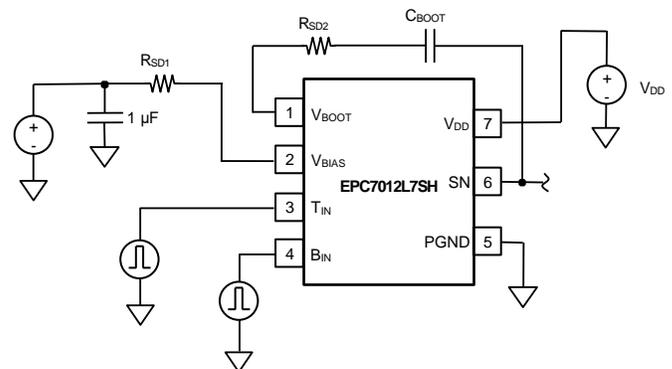

Figure 3. External Damping Resistor Connections
The EPC7012L7SH is designed to be a high-speed power driver. As such it has extremely fast switching node (SN) rise and fall times by design. Fast rise and fall times can and will result in unwanted voltage spikes at the  $V_{DD}$  and PGND pins due to any parasitic layout inductance ( $V_{SPIKE} = L_{PAR} \cdot di / dt$ ). If these spikes cannot be reduced to an acceptable level through PCB optimization, two resistors may be added to provide the necessary damping to the local supply loop. These resistors,  $R_{SD1}$  and  $R_{SD2}$  are shown in Figure 3.